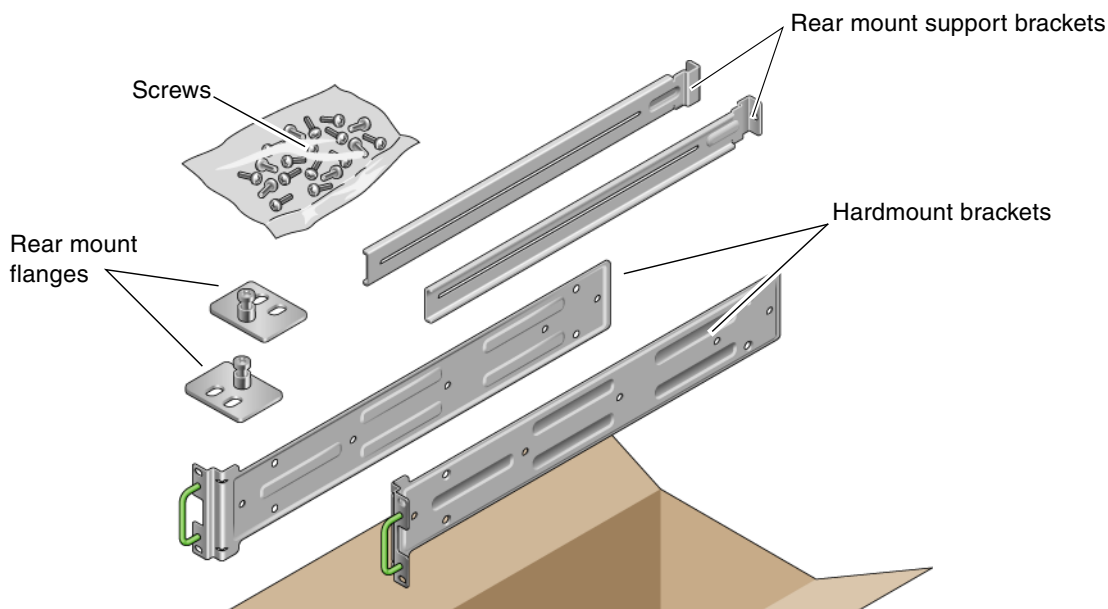

FIGURE 2-1 Contents of the Hardmount 19-Inch 4-Post Kit
1. Get the hardmount brackets from the rack kit (FIGURE 2-1).
4. Get the two rear mount support brackets from the rack kit (FIGURE 2-1).
8. Get the two rear mount flanges from the rack kit (FIGURE 2-1).
You also need the hardmount brackets and the M5 x 4.6 mm Phillips flathead screws from the standard rackmount kit that came with the server (FIGURE 2-1).
1. **Get the hardmount brackets and M5 x 4.6 mm Phillips flathead screws from the standard rack kit (FIGURE 2-1).**